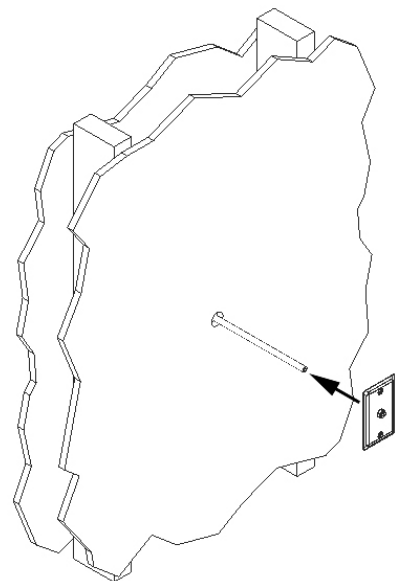

Figure 4 - Installation of Static Pressure Sensor Plate
Step 5 - On the opposite wall, install the *Room Static Pressure Sensor Wall Plate* by placing the tubing over the barbed end of the fitting and pressing firmly until the tubing is fully seated. Note that excess tubing may be removed prior to installing the *Room Static Pressure Sensor Wall Plate*. Once the tubing is attached, feed any excess tubing into the wall and attach the wall plate using two screws (not included) appropriate for the wall type in which the plate is being fastened (Ref. Figure 4).